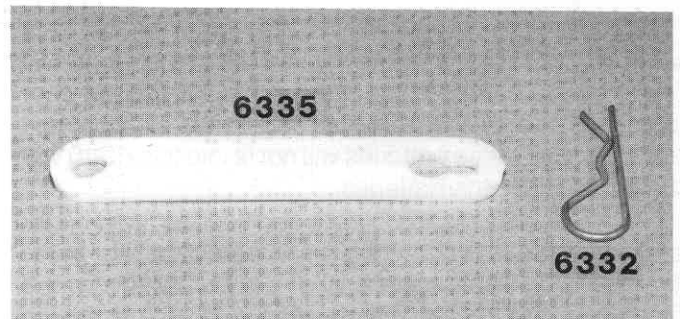
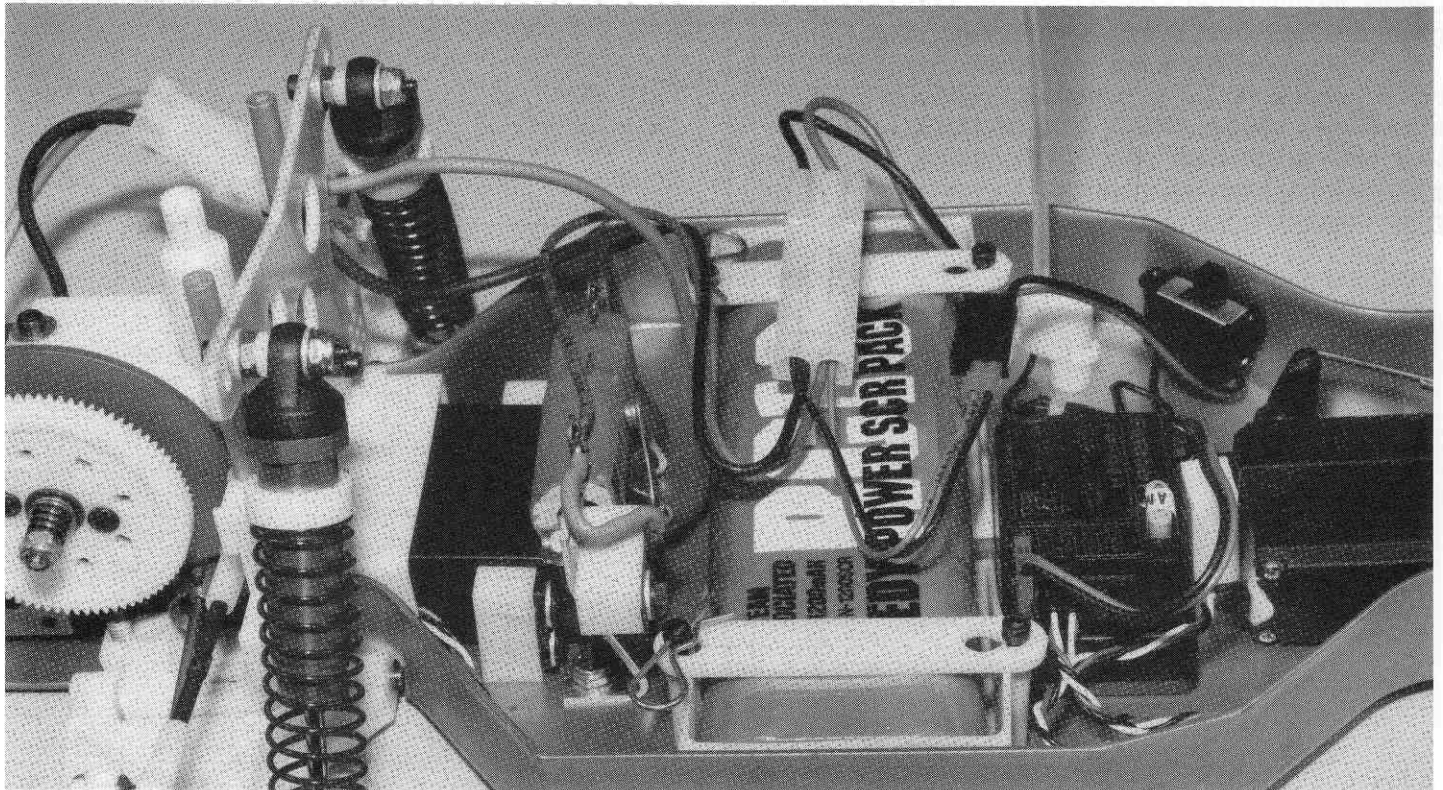

Fig. 145
Fig. 145a
□ **Fig. 145 & 145a** When we have made sure that all of the batteries are charged it is time to install the battery into the car. Slip the 7.2 volt battery pack into the battery trays. Now slip the "keyhole" end of the #6335 battery hold-down straps (fig. 145) over the front screws in the battery trays (fig. 145a). Slip the other end of the battery straps over the rear screws. Install two #6332 hood pins through the screw heads.